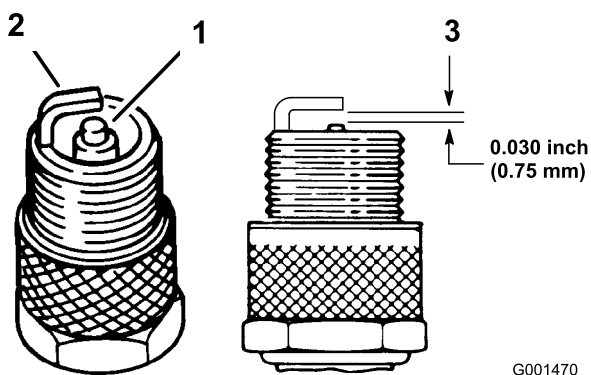

Figure 50
1. Look at the center of the spark plugs (Figure 50). If you see light brown or gray on the insulator, the engine is operating properly. A black coating on the insulator usually means that the air cleaner is dirty.
3. Connect the wires to the spark plugs (Figure 50).
2. Check the gap between the center and side electrodes (Figure 50). Bend the side electrode (Figure 50) if the gap is not correct.